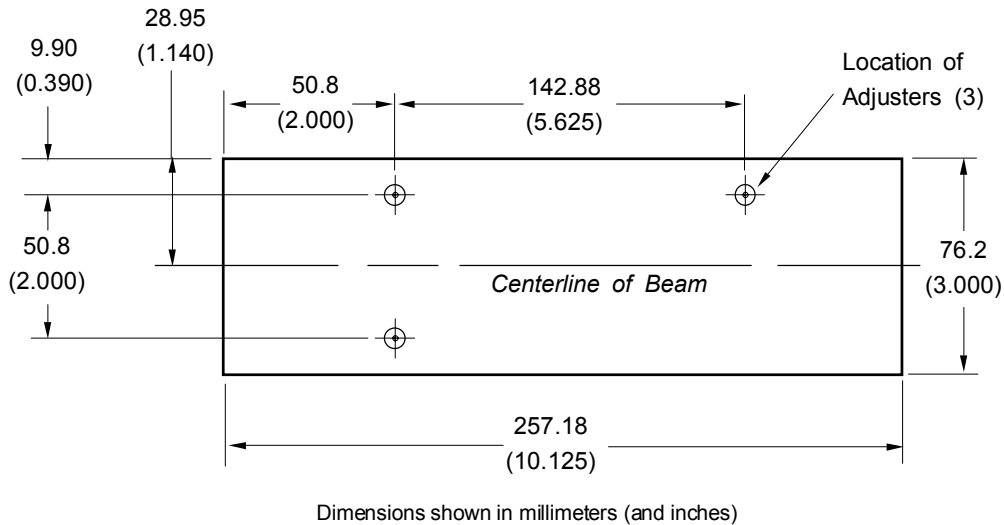
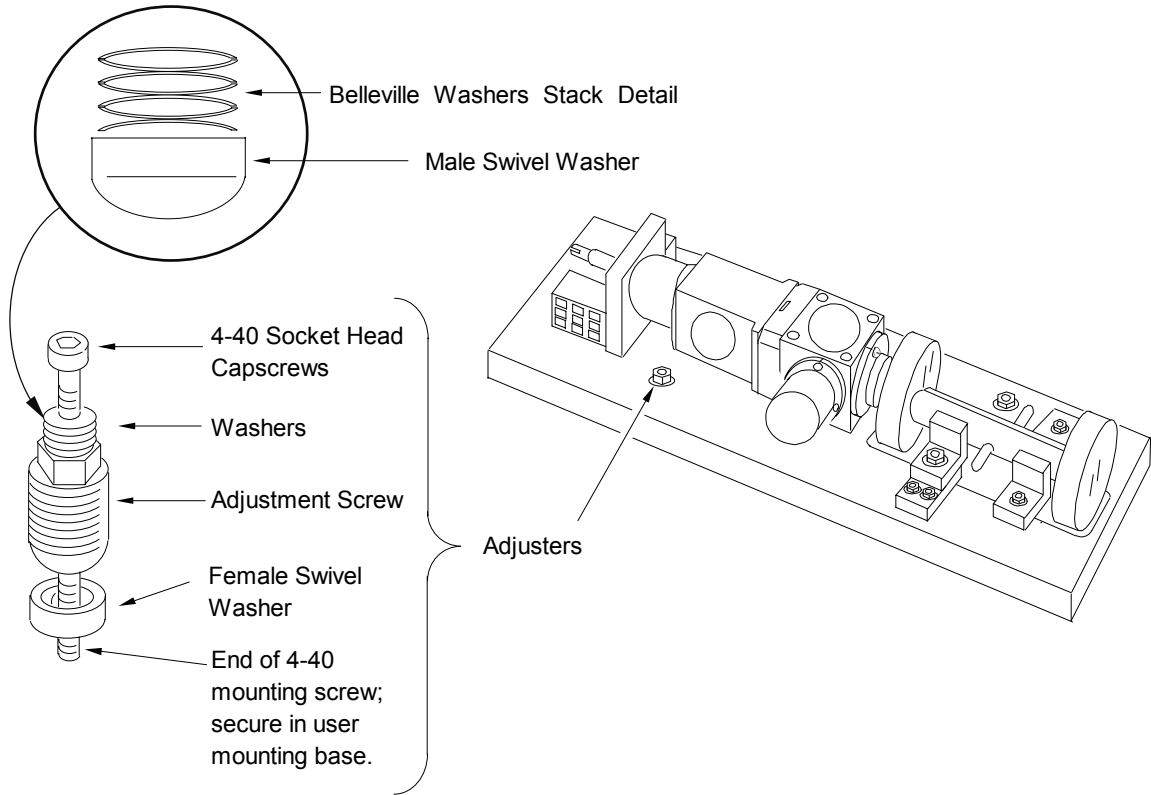

Figure 3 Mounting Dimensions (Top View)
Figure 4 Mounting Detail
The Compact Wavelength Compensator must be mounted with the long dimension of the base parallel to the incoming laser beam. The plane defined by the base of the Compensator must be parallel or perpendicular to the laser head mounting plane within ± 1 degree. The space required by the Compensator is shown in Figure 3.
1. Using a 3/32 Allen wrench, remove the three capscrews from the protective cover at the locations shown in Figure 3. Remove the cover and standoffs.
3. Use the mounting kit provided to secure the Compensator in position. Drill and tap three 4-40 holes in the mounting surface, spaced according to the dimensions shown in Figure 3. The mounting kit detail for the Compensator is shown in Figure 4. Slightly tighten the three capscrews securing the Compensator to the mounting surface by tightening the screws one turn past contact.